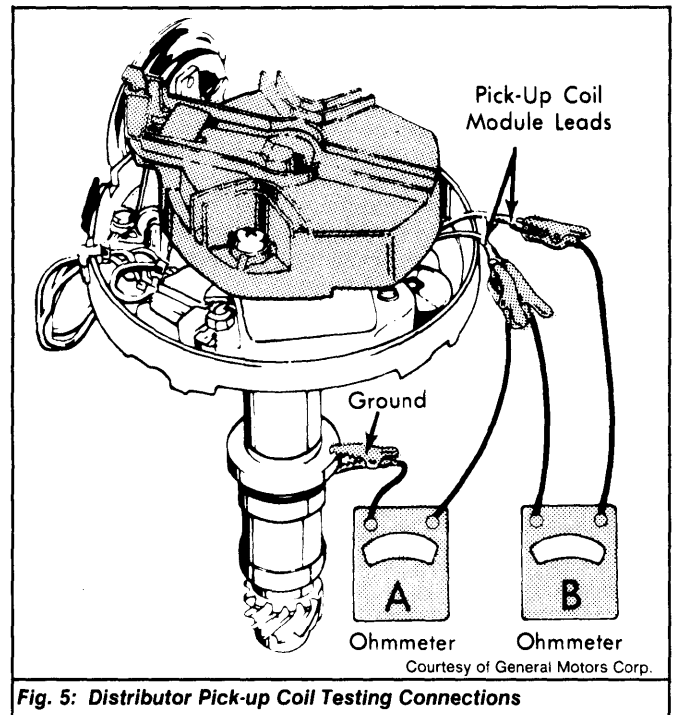

Fig. 5: Distributor Pick-up Coil Testing Connections
**Pick-up Coil** - 1) Connect external vacuum source to distributor vacuum advance. Connect ohmmeter leads as shown by meter "A". See Fig. 5. Apply vacuum and operate advance unit through entire range while observing ohmmeter. Reading should be infinity at all times. If ohmmeter reading fluctuates, replace pick-up coil.